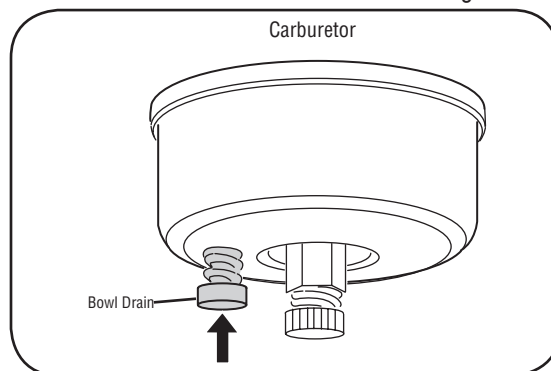

Figure 14
3. Drain carburetor by pressing upward on bowl drain, located below the carburetor cover. See Figure 14.